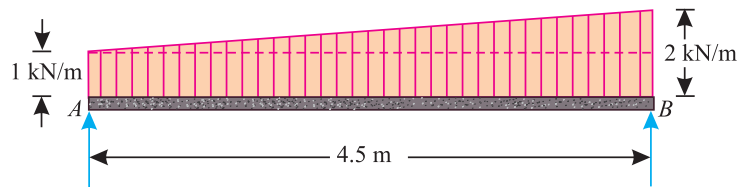

Fig. 12.9.
**Example 12.3.** A simply supported beam AB of span 4.5 m is loaded as shown in Fig. 12.9.